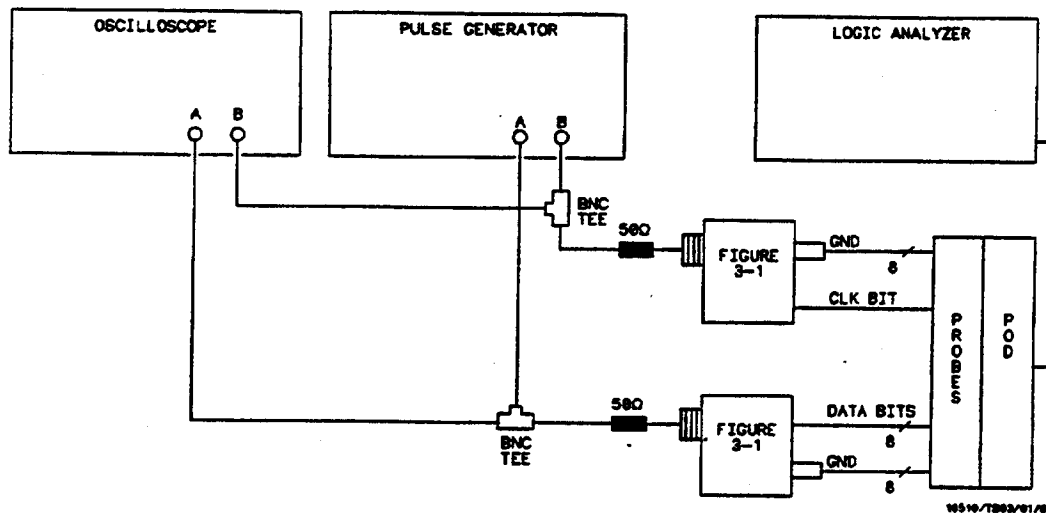

Figure 3-16. Equipment Setup For Test 3
1. Connect the HP 16510B and test equipment as in figure 3-16.